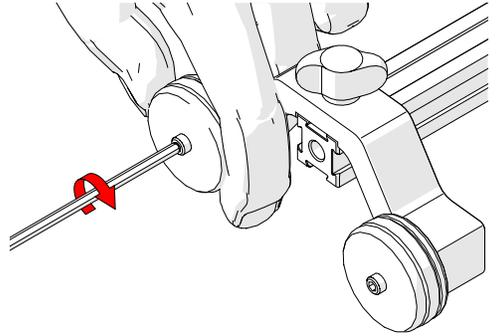

Fig. 25 - Wheel removal
1. Tightly grip the magnetic wheel to be removed. Using the 3 mm hex driver, loosen the magnetic wheel from the axle (Fig. 25).